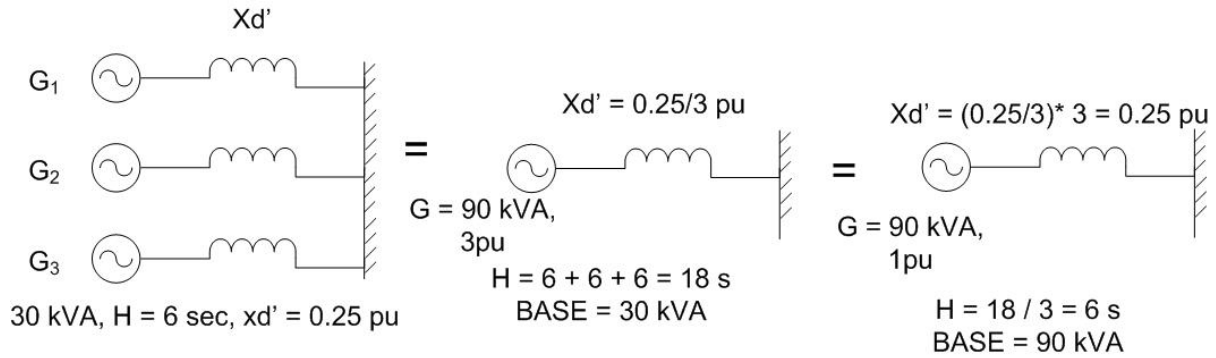

Figure 3: 3 M/C system
1. Each machine 30 kVA,  $H = 6$  s,  $x_d' = 0.25$  pu. (Refer Figure 3).